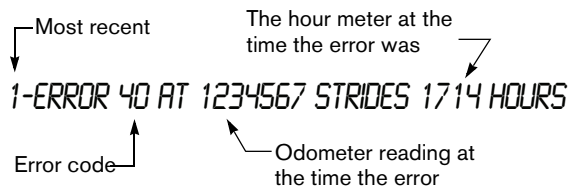

Figure 8: Error log
1. At the Precor banner, press and hold the RESET key for at least four seconds to view the error log. The most recent error recorded appears on the lower display. Refer to Figure 8.